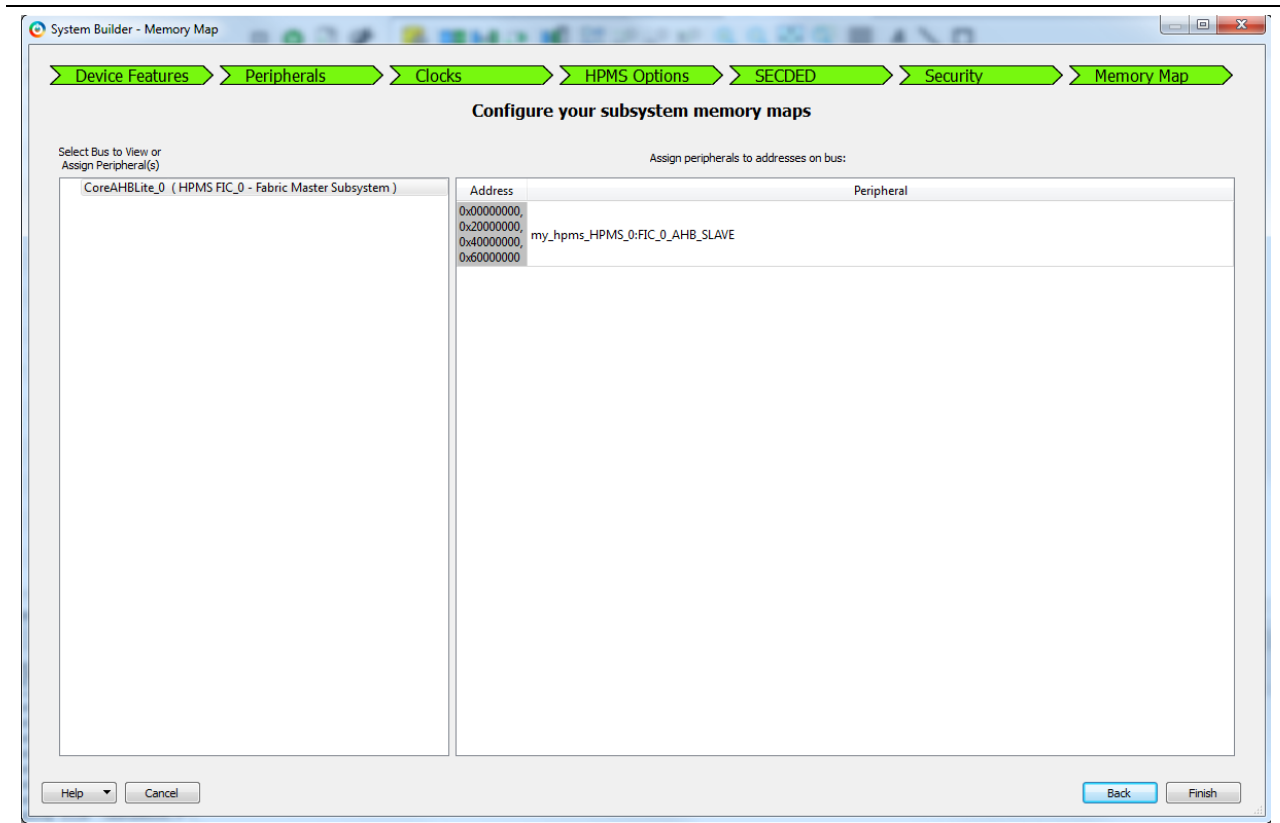

Figure 8 System Builder – Memory Map
14. **System Builder** generates the memory, as shown in Figure 8. Verify the memory map settings and click **Finish** to generate the System Builder blocks.